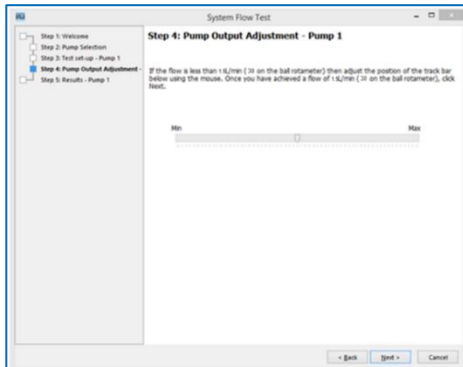

Figure 16. Pump Output Adjustment
- » If the flow reading on the rotameter is less than 1.5 L/min (rotameter ball is located below 30), adjust the position of the track bar using the slider to achieve a flow of 1.5 L/min on the rotameter, similar to Figure 16. If the rotameter reading reflects the software adjusted value, the flow circuit is leak free. Click *Next*